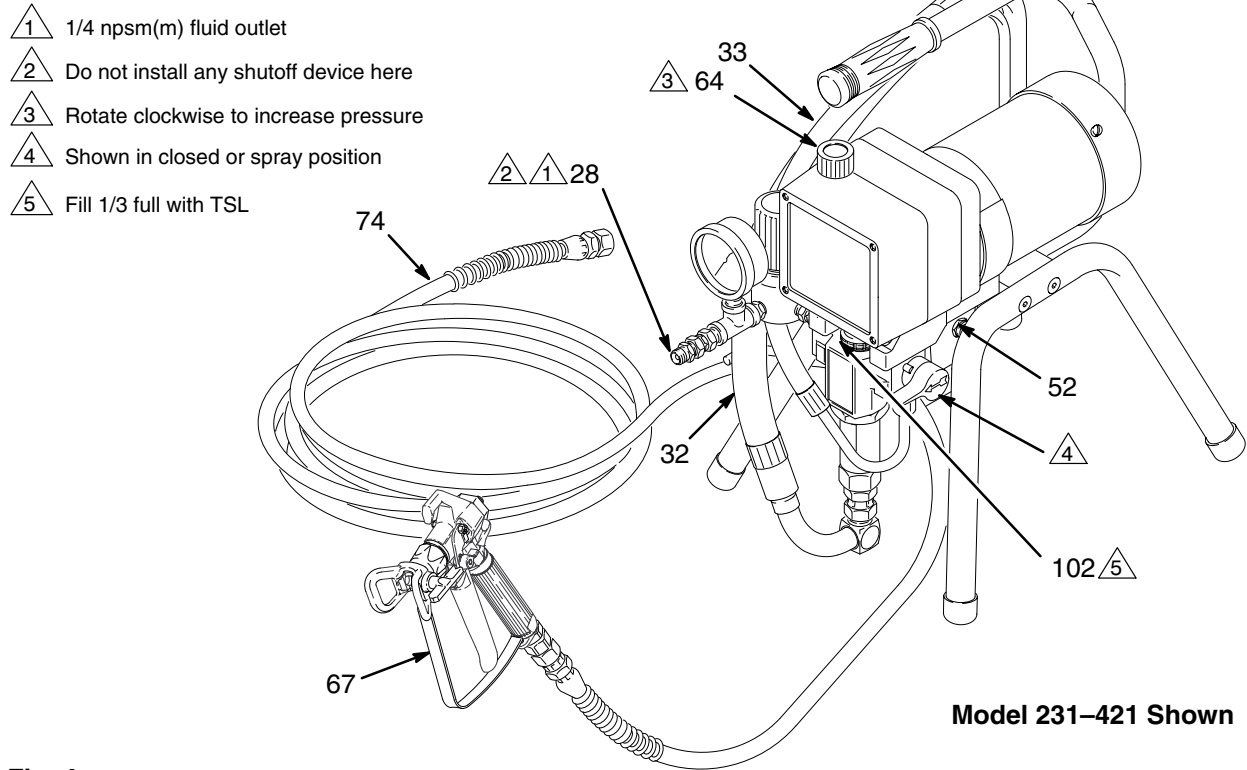

Fig. 4
3. Never install any shutoff device between the filter and the hose. See Fig. 4.
**NOTE:** Refer to Fig. 4 and the other figures referenced in the text as you start the sprayer.